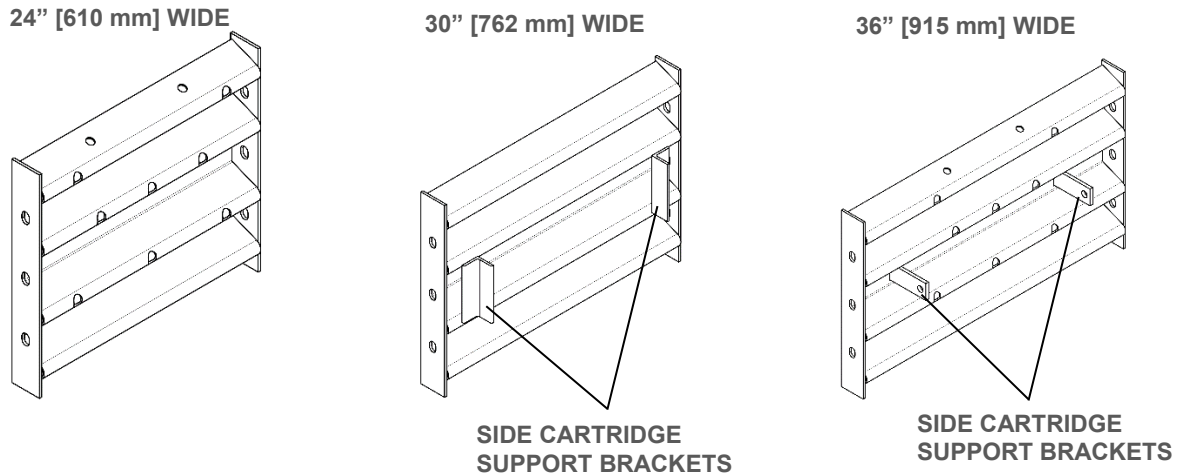

Figure 32
9) Attach Cartridge Support Brackets (Figure 32)
Attach lower Cartridge Support Bracket to front and back of all Diaphragms and front of Backup, as shown in Figures 32 to 35 and Backup Assembly drawings.